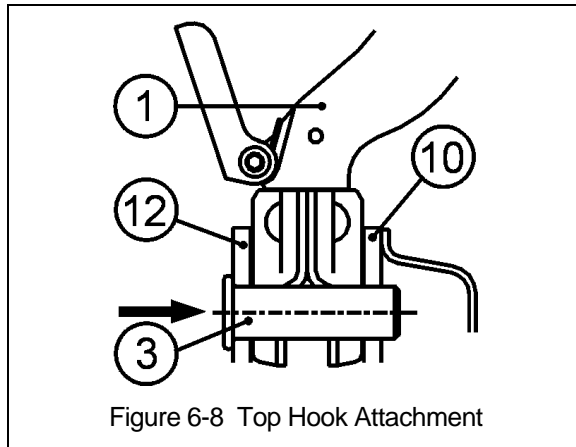

Figure 6-8 Top Hook Attachment
- Install the (1) Top hook set between (10) Frame A assembly and (12) Frame B then Insert (3) Top pin from the side of (12) Frame B to fasten (1) Top hook set. Refer to Figure 6-8.